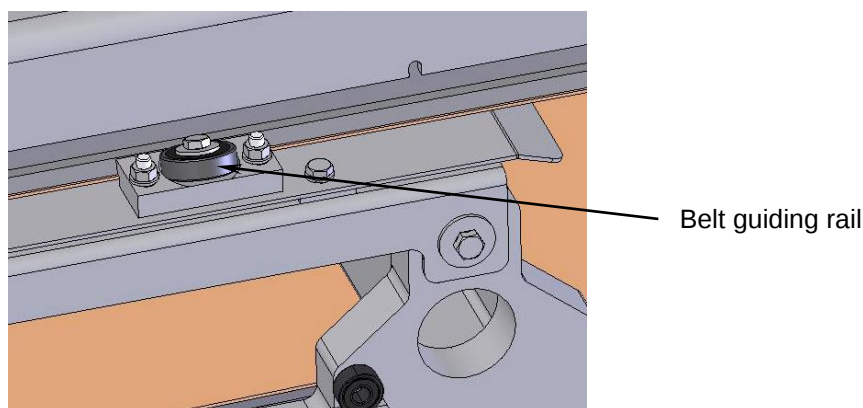

Fig. 18
- Loosen the screws on both guide rollers and move them away from the belt (see fig. 18).
- Remove the guide roller on the belt change side. Loosen the screws from the guide roller on the motor side and push it away from the belt (see fig. 18).